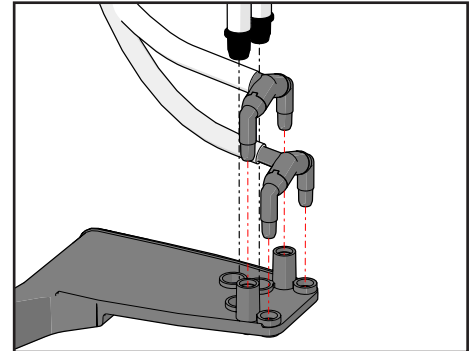

Figure 34.
4. Detach the spout from the arm (see Figure 34)